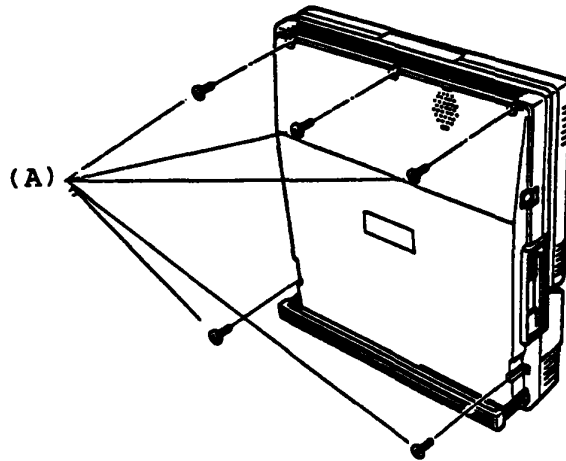

Figure 5-3 Remove Five Screws
2. Stand the System Unit, then remove the five screws (A) on the bottom of the System Unit. (Refer to Figure 5-3)
3. Turn the System Unit to normal position, then remove the three screws (B) on the rear panel (C).